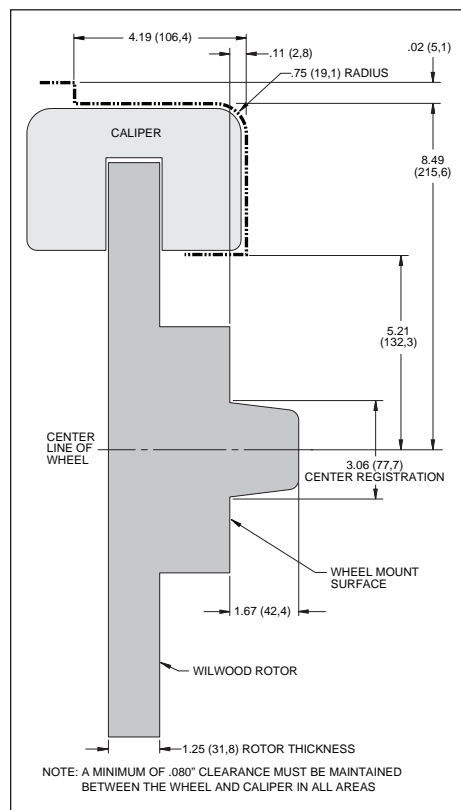

Figure 2. Wheel Clearance Diagram
- Review the wheel clearance diagram (figure 2, page 4) to verify that there is adequate clearance with the wheels you will be using with the installation.
- Verify your wheel clearance using Figure 2.